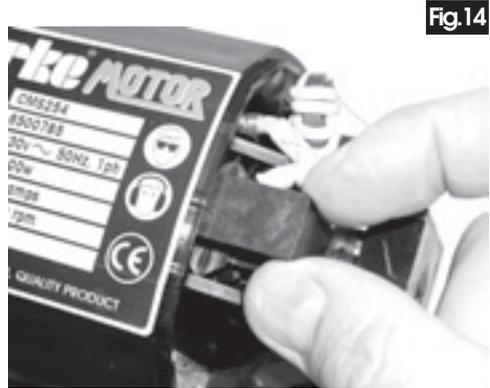
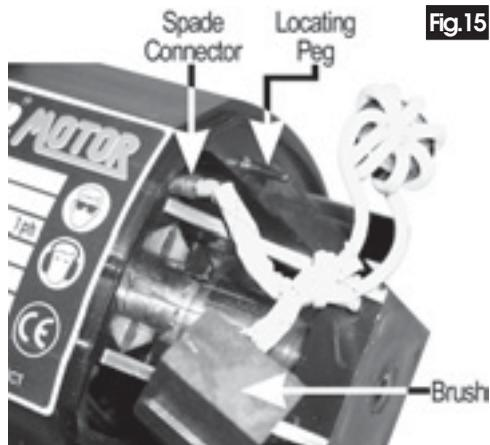

Fig.14
Fig.15
2. Disconnect the spade connector, shown in Fig. 15, then pull out the brush carrier, complete with brush, as shown in Fig. 14.
The cable is located on a plastic peg, shown in Fig. 15 and will simply pull away as you remove the brush.